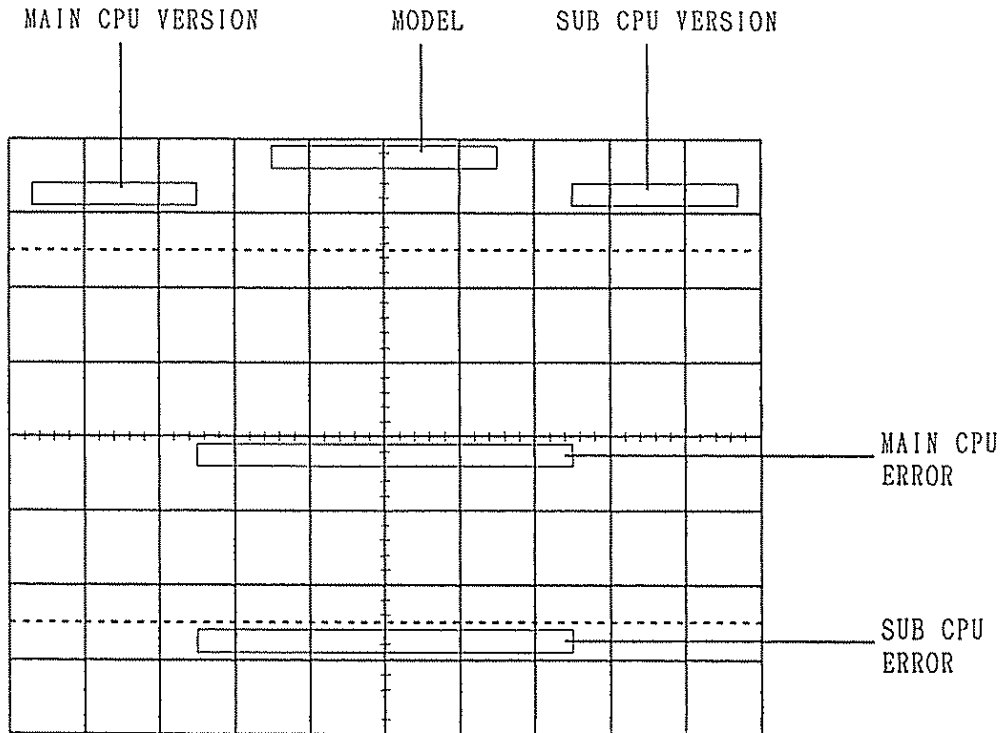

Figure 7.1 Diagnostic Messages Displayed on CRT
Other memory units than the above can be checked by pressing the READOUT control ③③ while keeping the 2ND FUNCTION KEY ④③ pressed. For COM7200A, COM7100A and COM7060A, the INTEN control ② acts as a second function key as in the case of initial mode setting. In this case, messages as shown in Figure 7.1 are displayed on the CRT for about 3 seconds.